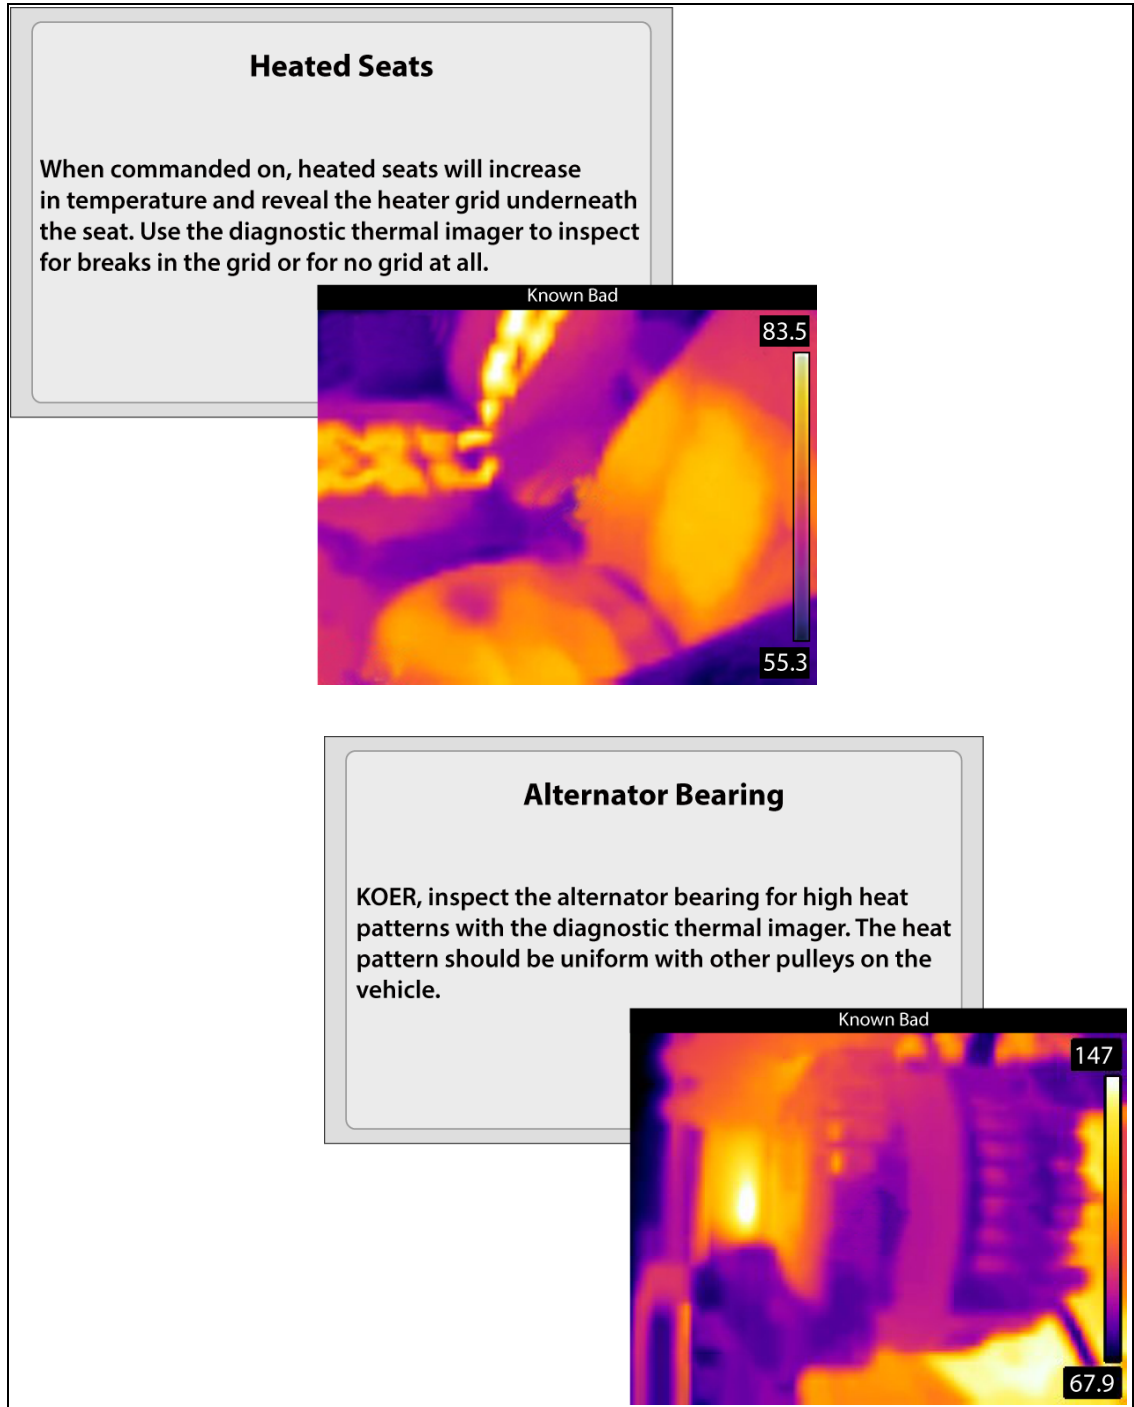

Figure 7-4
- Results are displayed (Figure 7-4). Use the **Up / Down** control buttons to scroll through the results. The results are identified as:
Expert tip screen examples are shown in Figure 7-4.